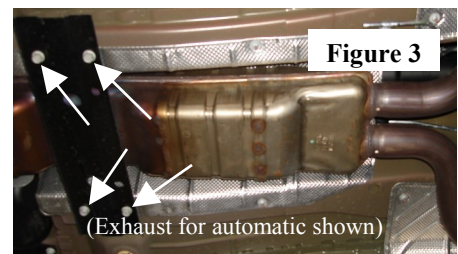

Figure 3
2. Remove (4) cross-brace support bolts using 15mm socket. Place hardware to the side. (See Fig. 3)